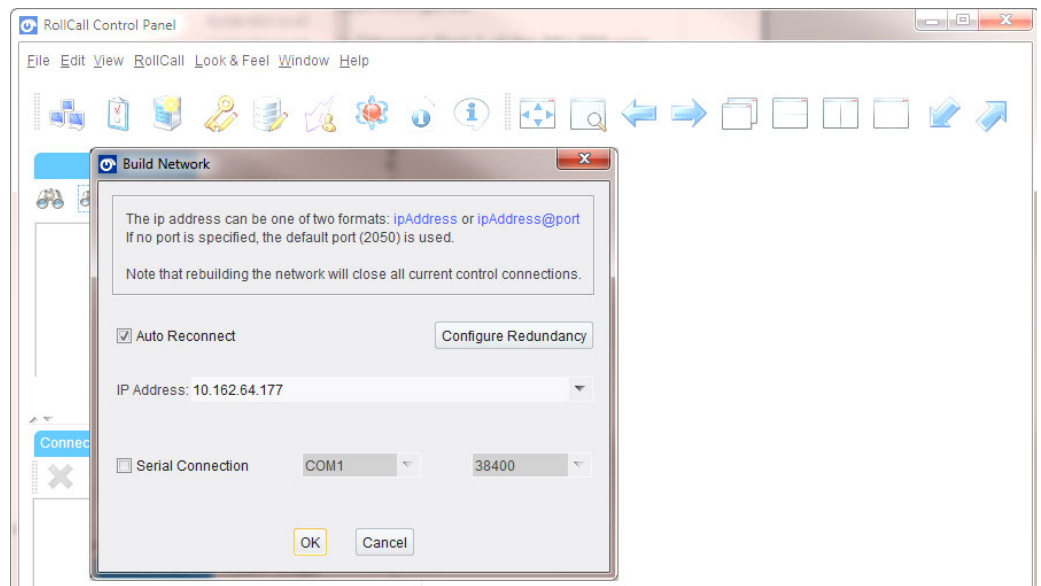

Figure 271 Build Network Dialog
2. Click on the **Build Network** icon in the RollCall tool bar to display the **Build Network** dialog. See Figure 271.